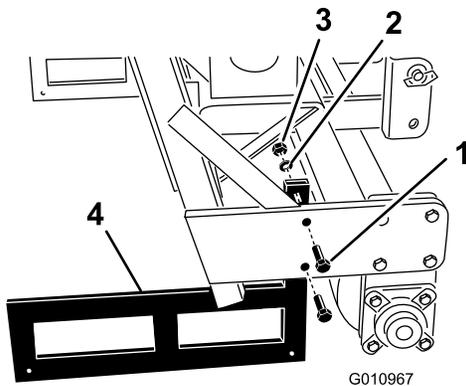

Figure 32
2. Remove the bolts and nuts securing the storage stands to each end of the aerator (Figure 32).